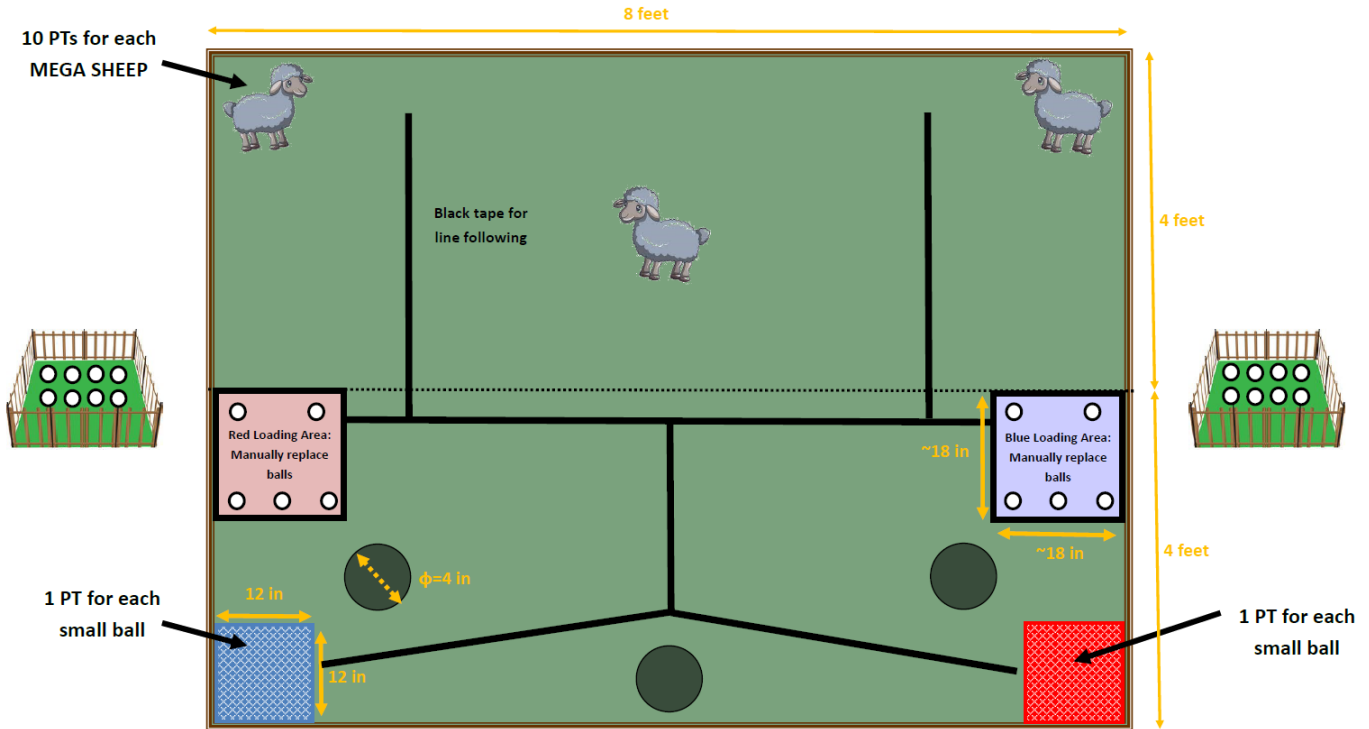

Figure 1: Top view of the field.
- ☐ The field, seen in Figure 1 is constructed from wood with dimensions of **8 feet by 8 feet**. The field is split in 2: a flat 8 foot by 4 foot surface and an **inclined** 8 by 4 foot surface.